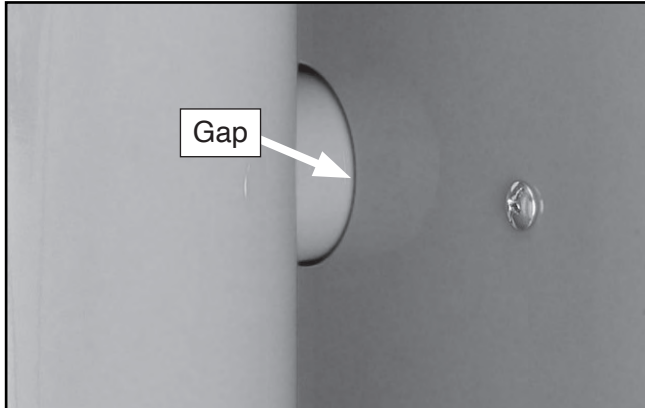

Figure 13. Dust collector suction port.
17. Using silicone (not supplied), seal gap between suction port and hole in cabinet wall (see **Figure 13**).